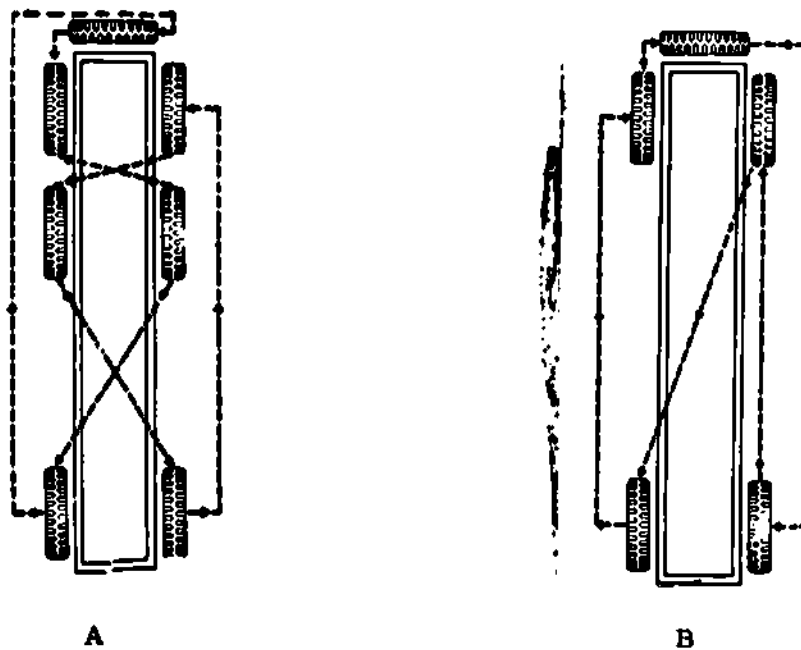

Fig 1-15. Procedure for rotating tires.
d. **Rotating.** The purpose of tire rotation is to equalize wear. Because of terrain, road conditions, and loads carried, all tires do not wear the same. Knowing when to rotate them depends mostly on what the results of your tire inspections are. Rotation every 6000 miles is normal, but this is not a hard and fast rule. Rotation may be warranted earlier, and if it is not done, the tire may be ruined. The procedure for rotating tires for a 4 x 4 truck with single tires is shown in A, figure 1-15. For a 6 x 6 truck with single tires, the procedure is shown in B, figure 1-15. When rotation is performed, consideration should be given to the spare tire.